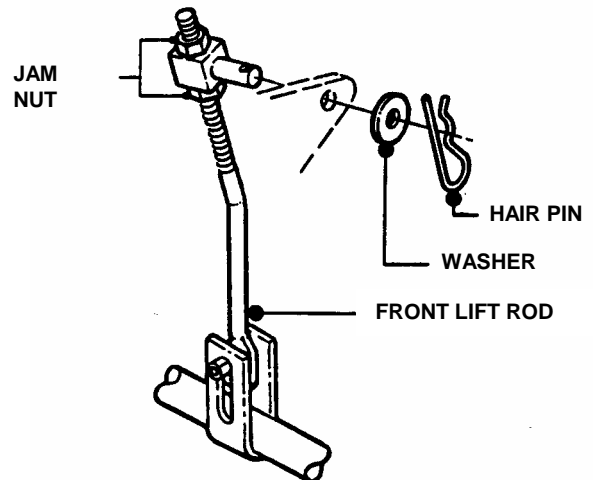

FIGURE 4.12
5. Remove hair pin and washer securing front lift rod to front lift arm. See Figure 4.12.
7. Loosen jam nut on front lift rod. See Figure 4.12.